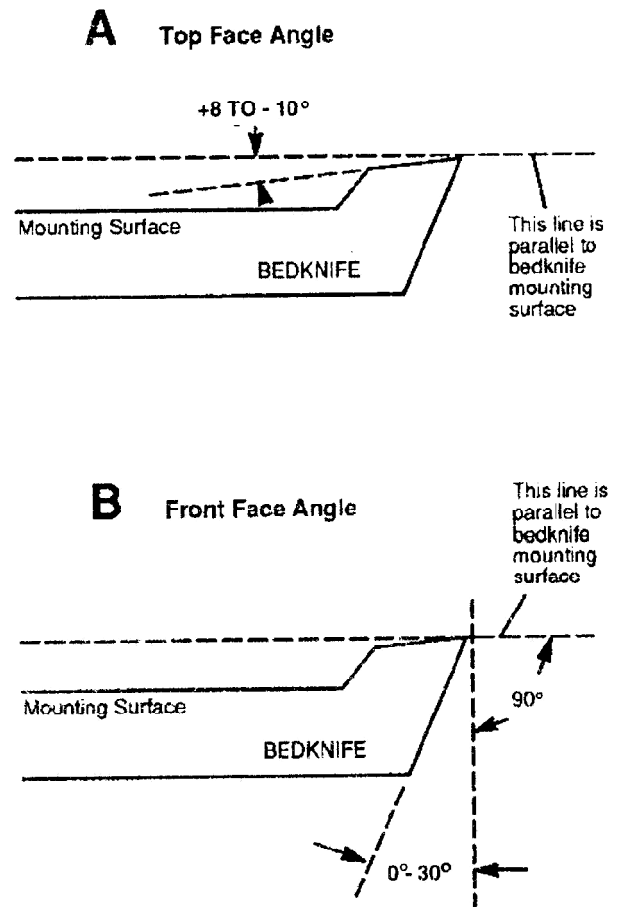

FIG. 8
- * There will be a +8 to -10 degrees clearance angle ground on the top face. It will **usually** be measured relative to the bedknife mounting surface. See FIG. 8-A.
- * There will be a 0-30 degrees clearance angle ground on the front face. It will **usually** be measured relative to a line **perpendicular** to the bedknife mounting surface. See FIG. 8-B.